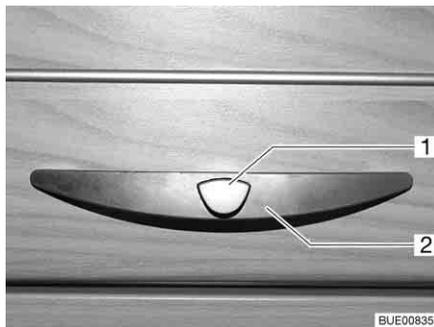

Fig. 42 Furniture flap with handle (example)
- Press the release knob (Fig. 42,1) on the handle (Fig. 42,2) and hold it down.